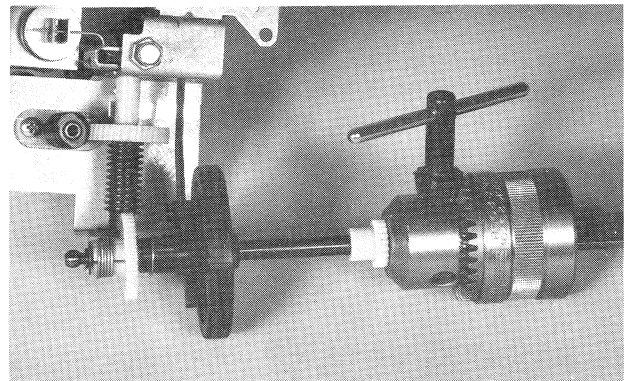

Figure 8. Jackshaft with Drill Chuck Attached
1. Thread the G17-38000A Torque Adapter (part of Tool Kit SS-363) into any standard electric drill chuck having a 3/8" x 24 thread, and clamp the drill chuck on the end of the Jack Shaft (Figure 8).
1. Thread the G17-38000A Torque Adapter (part of Tool Kit SS-363) into any standard electric drill chuck having a 3/8" X 24 thread, and clamp the drill chuck on the end of the Jack Shaft (Figure 8).